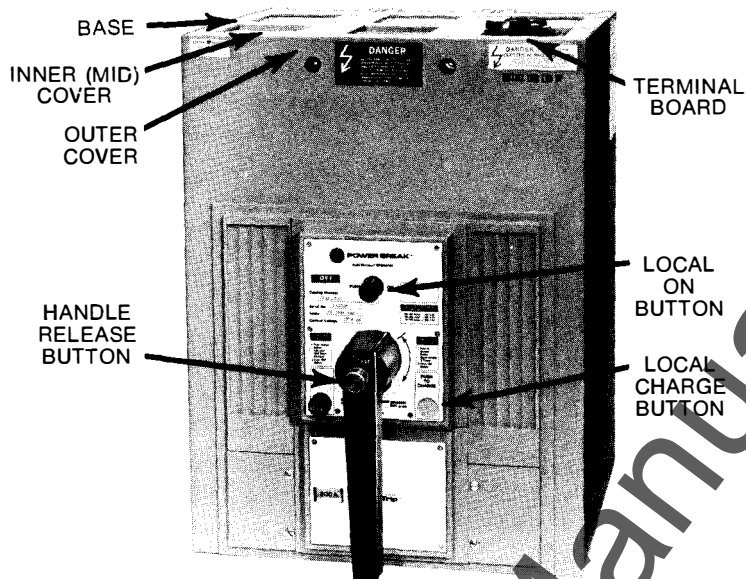
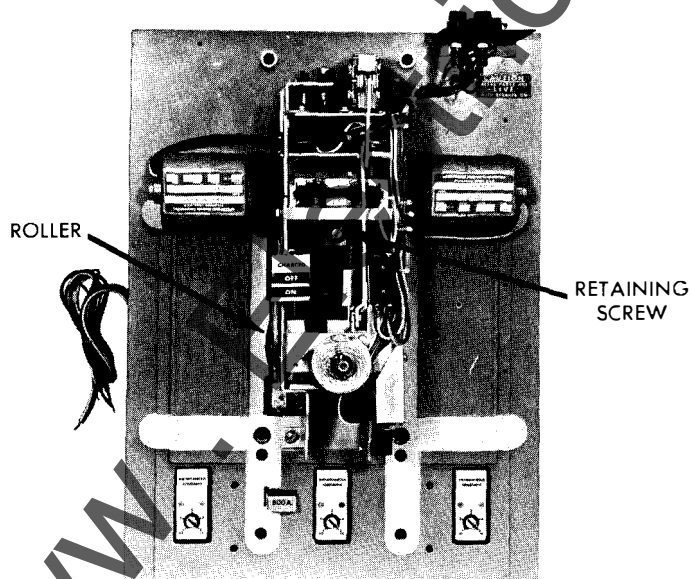

Fig. 2. Electrically operated
Fig. 3.
Electrically Operated Breakers — See Fig. 2.
Unscrew the inner cover retaining screw, Fig. 3, and remove the inner cover assembly from the breaker base.
- b. Tighten the inner cover retaining screw shown in Fig. 3.
- d. Install the breaker outer cover (4 screws). See Fig. 2. Be sure that the terminal board slides into the slots in the circuit breaker cover. See Fig. 3.
- f. Reconnect the power leads at the terminal board. See Fig. 2.